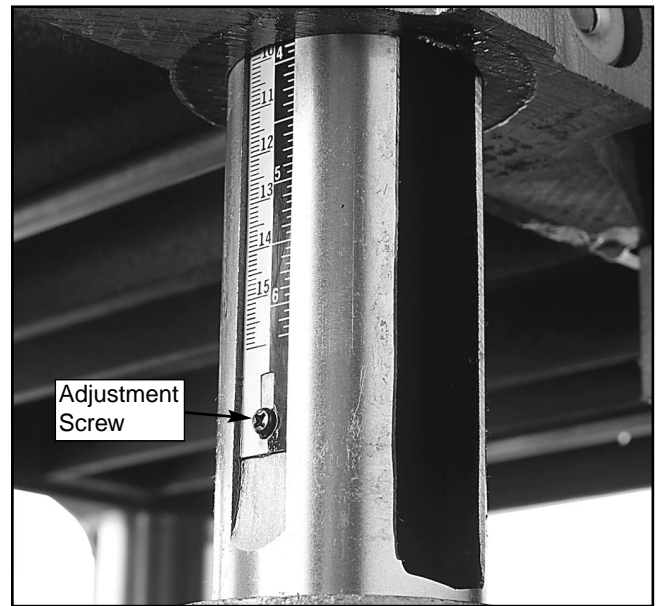

Figure 34. Thickness scale.
4. Re-measure the board and compare your results with the scale. If there is a discrepancy, loosen the scale adjustment screw and correct the position. **See Figure 34.**